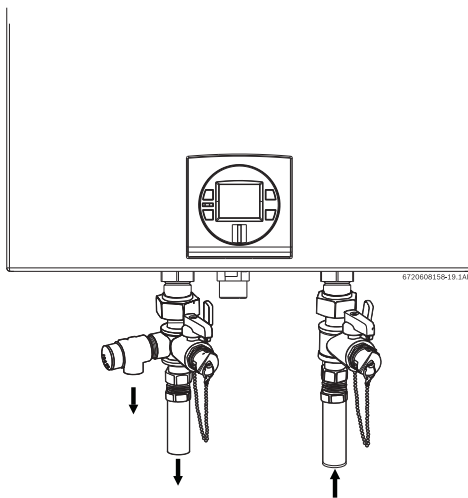

Fig. 33 Plumbing Connections (with shutoff valves) and Pressure Relief Valve
- ▶ Full port shutoff valves should be installed on both the cold water supply and hot water outlet lines to facilitate servicing the heater (see Fig. 33).
The location of the PRV must be readily accessible for servicing or replacement, and be mounted as close to the water heater as possible. See Fig. 33. To install the PRV, a suitable fitting connected to an extension on a "T" fitting can be sweated to the hot water line. Support all piping.